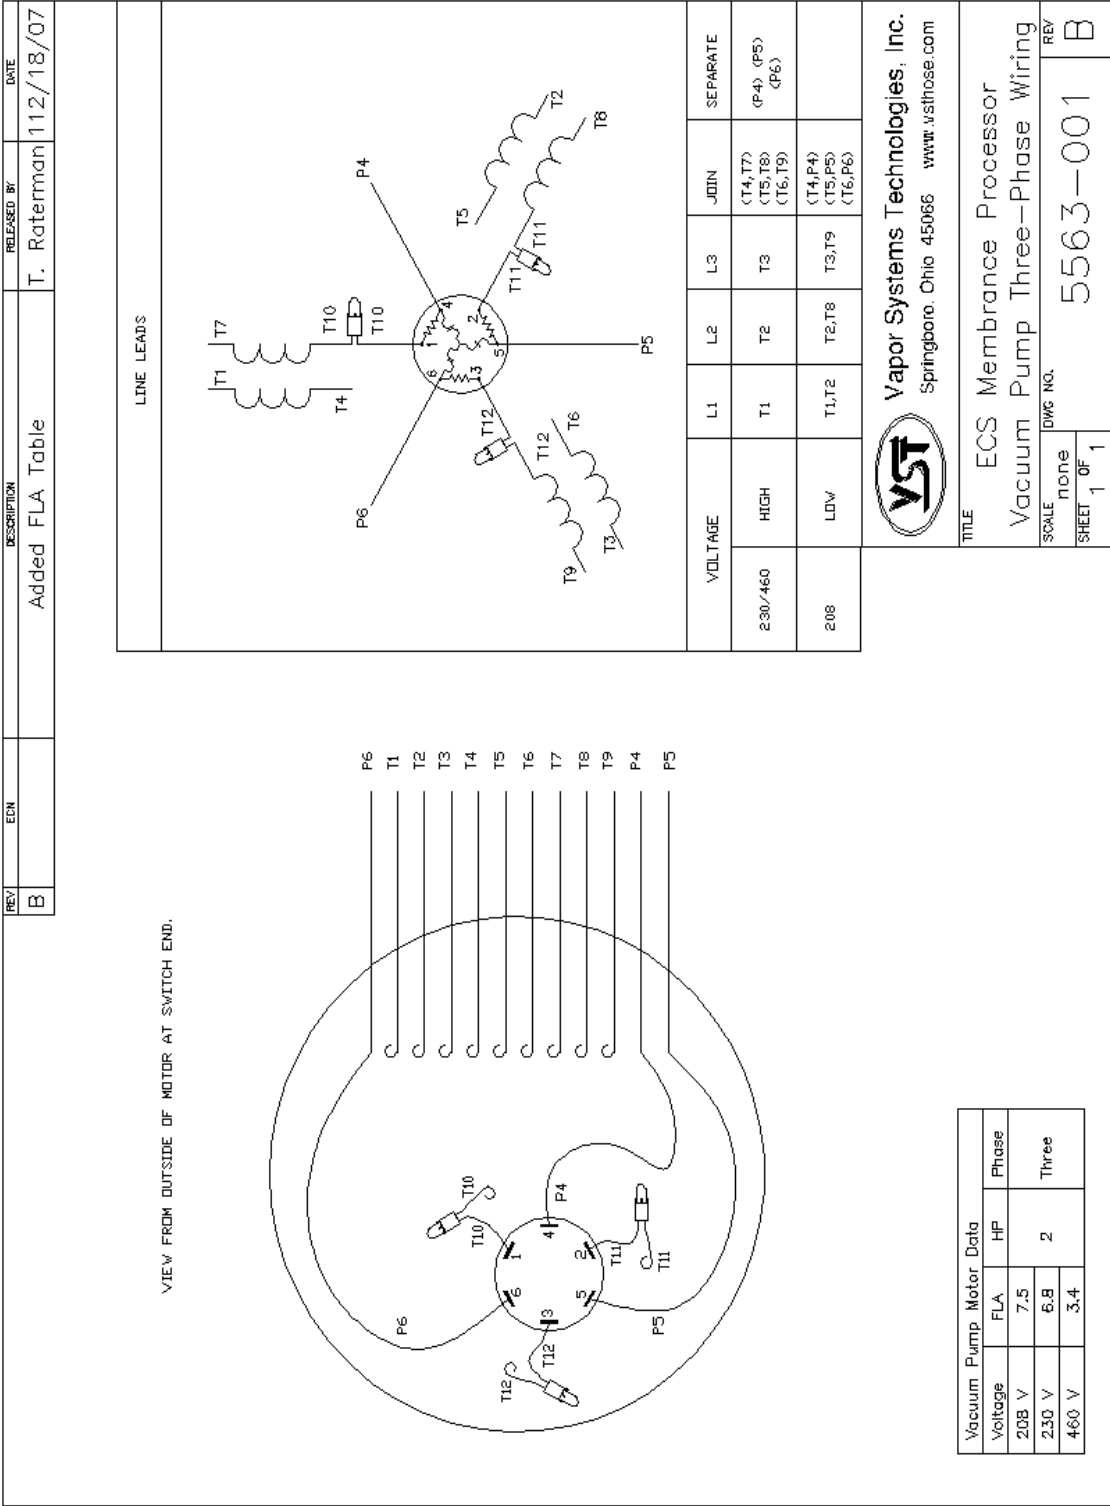
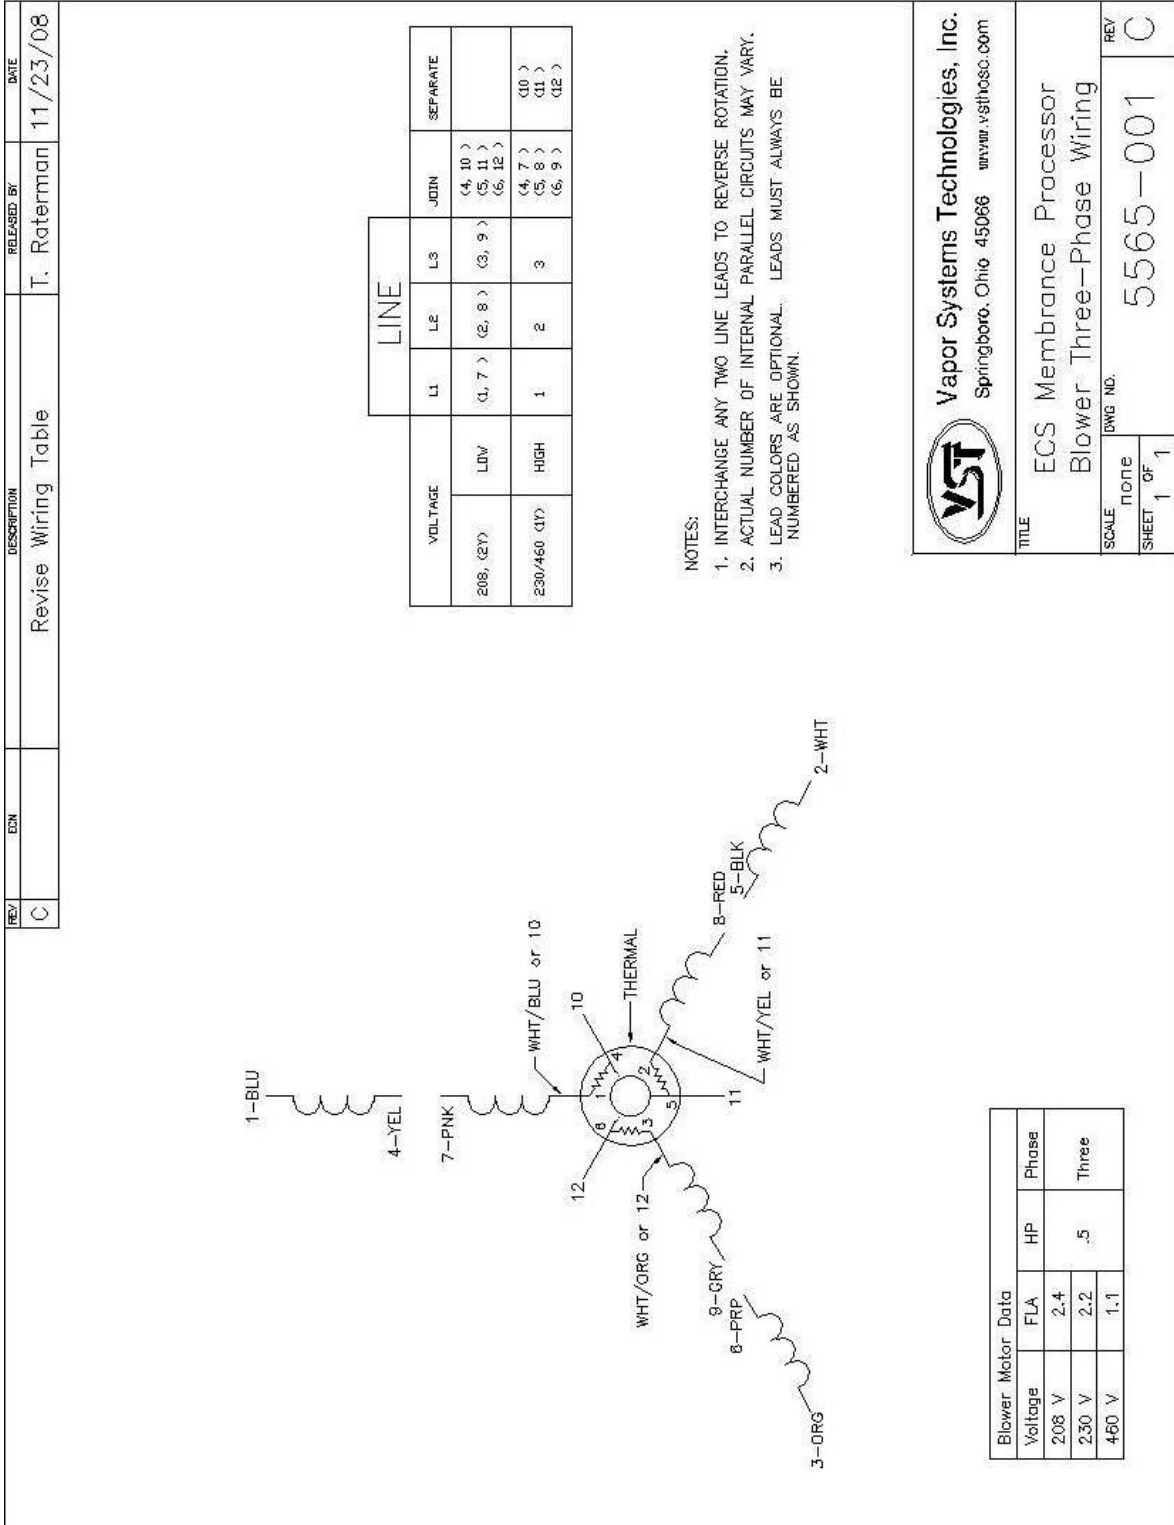

Figure 13: Vacuum Pump: Three-Phase Motor Wiring Diagram
Figure 15: Blower: Three-Phase Motor Wiring Diagram
- ▶ See Figure 13 and Figure 15.